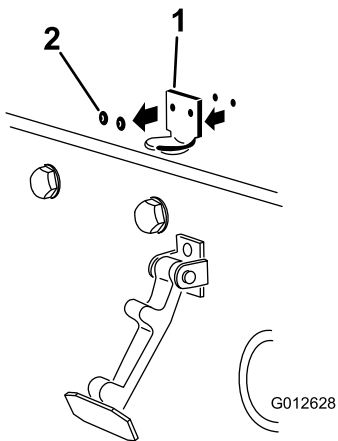

Figure 5
2. Remove the (2) rivets securing the hood latch bracket to the hood (Figure 5). Remove the hood latch bracket from the hood.
3. While aligning the mounting holes, position the CE lock bracket and the hood latch bracket onto the hood. The lock bracket must be against the hood (Figure 5). Do not remove bolt and nut assembly from the lock bracket arm.